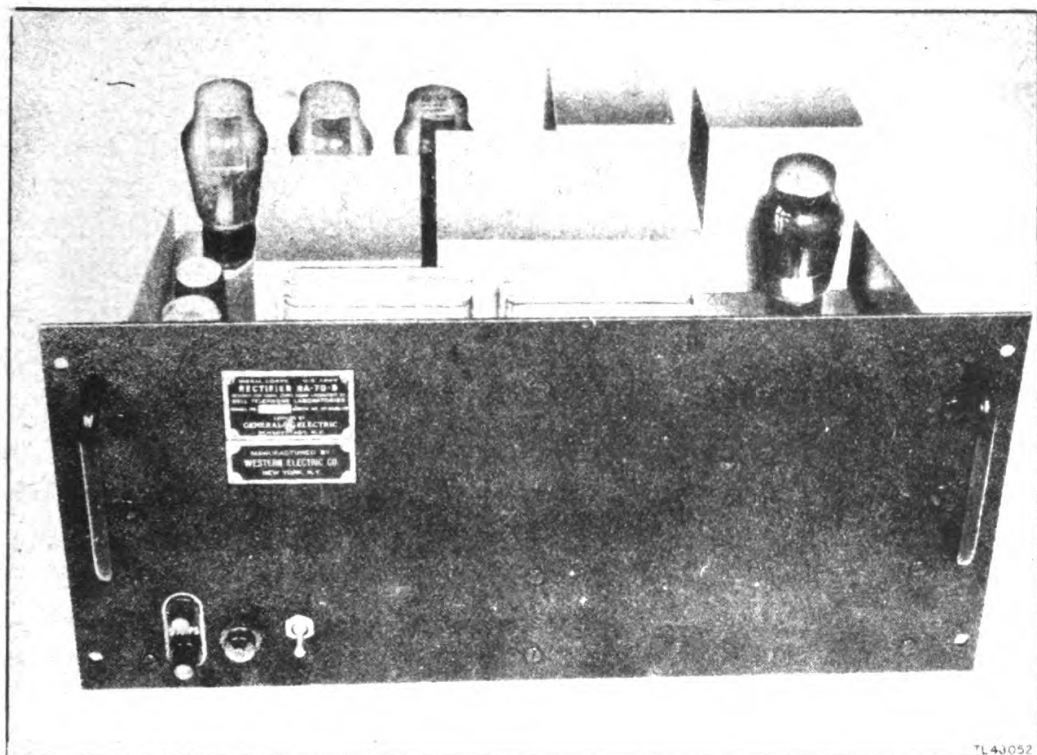

Figure 10. Altitude Converter Rectifier RA-70-A.
13. ALTITUDE CONVERTER RECTIFIER RA-70-A (fig. 10).